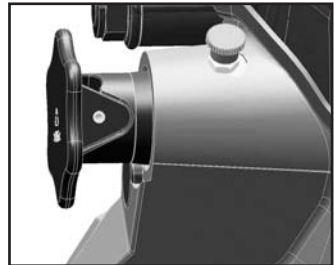

Fig. 2
To open the trailer coupling proceed as described under item 2 above. The coupling lever is in its upper end position, the coupling is set ready for its next engagement. When inserting the towing eye, the coupling mechanism is released by lifting the coupling bolt. The coupling closes automatically, which means that the coupling bolt is inserted through the towing eye bush in its lower position in the guide bush. The safety device is engaged, that is to say that the safety bar/bolt locates over the coupling bolt, the securing knob is in its internal engaged position, the coupling is closed and secured, the towing eye is engaged (Fig. 2).
2. Remove cotter pin (43) (fig. 2).
6. Drive in new cotter pin (43) and secure properly (fig. 2).